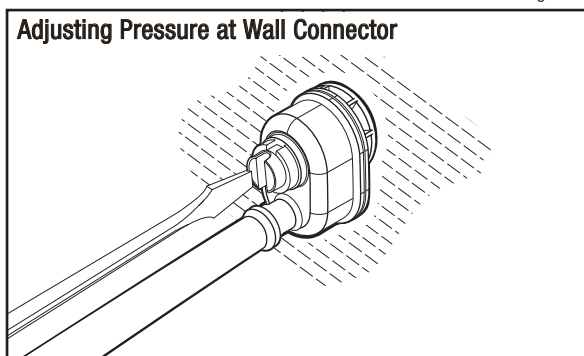

Figure 2
1. Turn the filtration system pump **ON** then the Booster Pump **ON**. Read the pressure on the Setup Pressure Gauge connected to the Cleaner Connector. Use a flat blade screwdriver to adjust the Wall Quick Connect Knob (see figure 2) until the pressure reads 25 PSI (+/- 5 PSI).